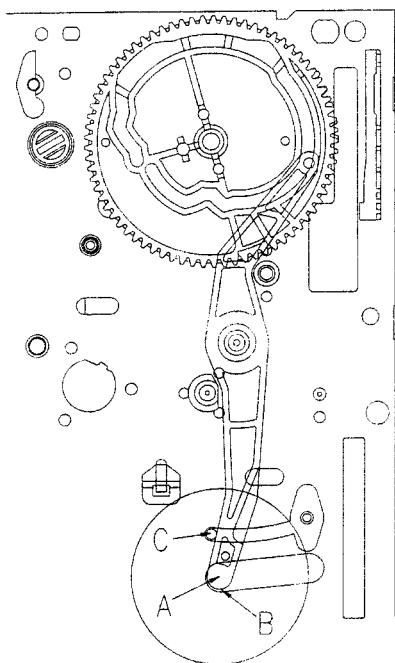

Fig.4-2 DATUM POSITION OF RELAY LEVER & CAM GEAR
- b. Make sure that the ending part "A" of the RELAY LEVER assembled in the CONNECT PLATE is fully rotated up to the left side of "B" of the MAINBASE and is attached to the boss "C" of the MAINBASE as shown in Fig.4-2.